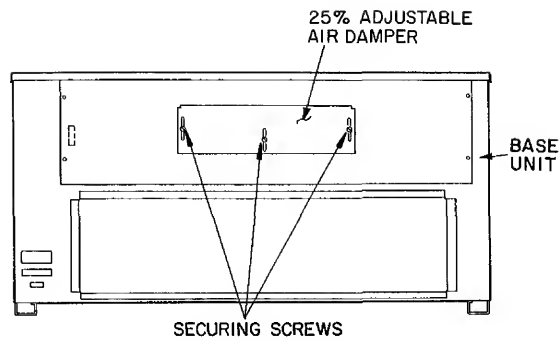

Fig. 12 — 25% Outdoor Air Section Details
**MANUAL OUTDOOR AIR DAMPER** — All units (except those equipped with a factory-installed economizer) have a manual outdoor air damper to provide ventilation air. Damper can be preset to admit up to 25% outdoor air into return air compartment. To adjust, loosen securing screws and move damper to desired setting then retighten screws to secure damper (Fig. 12).